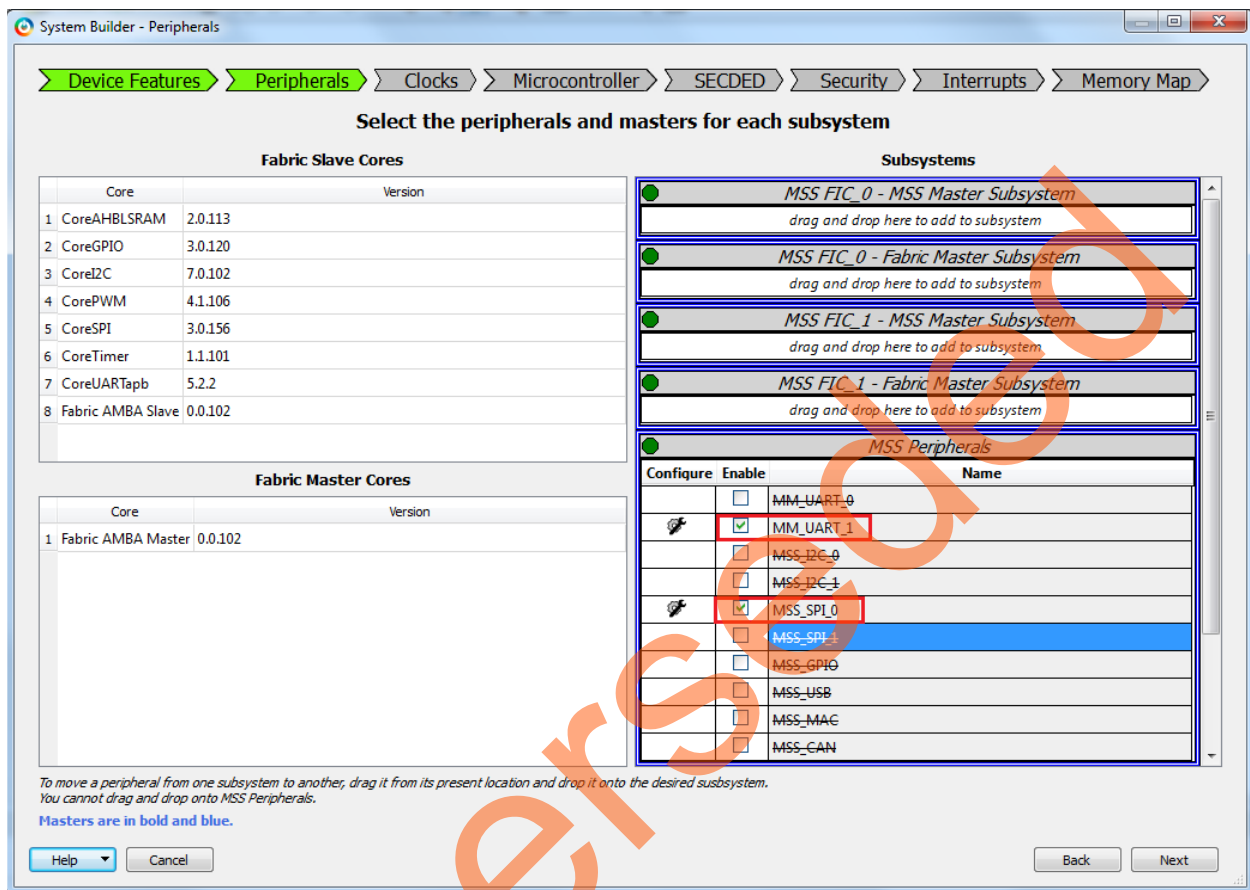

Figure 7 • System Builder Configurator – Peripherals Page
10. Click **Next**. The **System Builder – Peripherals** page is displayed. Under the MSS Peripherals section, uncheck all the check boxes except **MM_UART_1** and **MSS_SPI_0**, as shown in Figure 7.